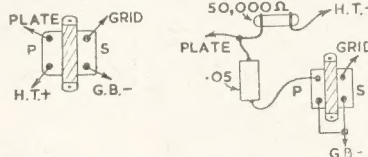

Fig. 4—Coupling transformer connections
indicated (usually marked (P) and (S) on the component) connections are as shown in Fig. 4. To assure windings are connected in such a way that best results are obtained, the Grid and G.B. wires may be reversed over and the difference noted. Even when the transformer is fully marked, this change is sometimes worthwhile, especially in curing any tendency towards howling which may be present.